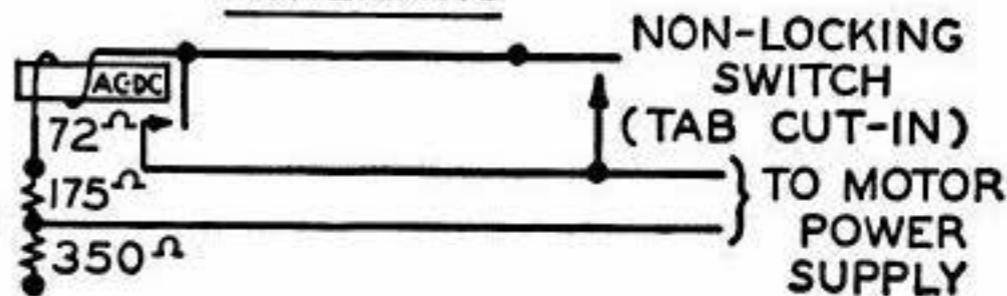

Fig. 2
3.08 Wire the apparatus as shown in Fig. 2 for ac or dc as required. Tie all wiring in place so as to clear all moving parts. The resistor lugs should clear the guard by at least  $3/32$ ". **Fig. 2**